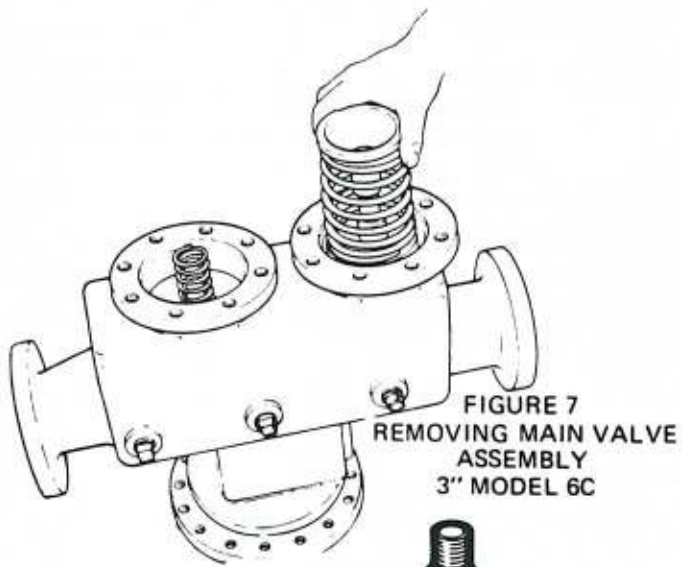

FIGURE 7
4. Remove main valve assembly (Fig. 7).
5. Remove disc cap screw (1" and 1-1/2" sizes) (7B) or stud nut (2" - 10" sizes) (8). This releases the guide (6A) and guide